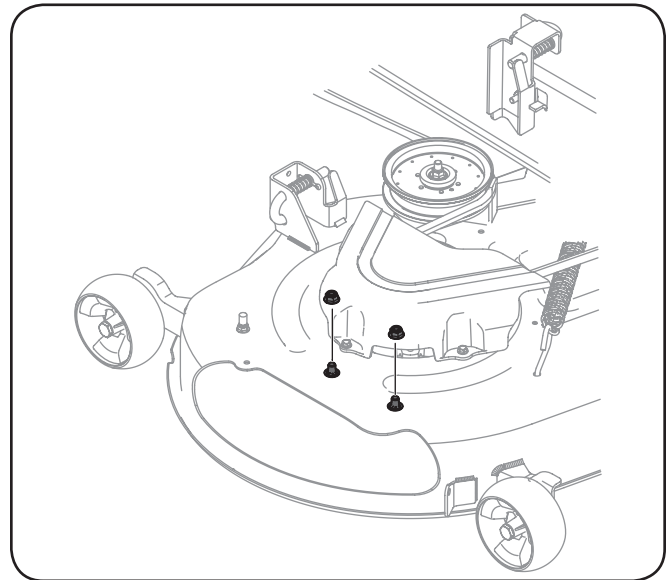

Figure 3-5
- Remove the flange lock nuts from the deck. Do not remove the push nuts or carriage bolts, leaving them in place will aid in installing the chute. See Figure 3-5.